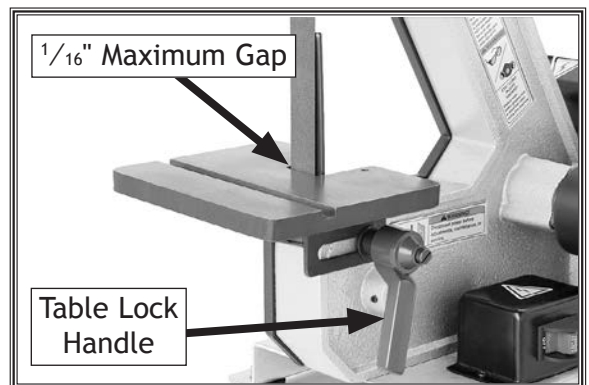

Figure 20. Sanding belt table installed.
- Install belt table with a $\frac{1}{16}$ " maximum clearance from sanding belt, and secure it in place using table lock handle (see **Figure 20**).